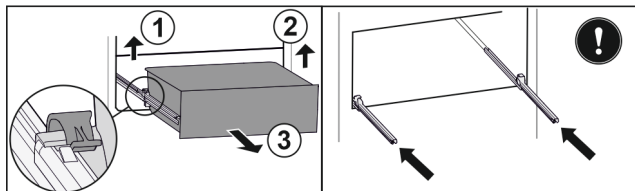

Fig. 131
- Lift left clamp and simultaneously pull drawer forwards on the left. Fig. 131 (1)
- Lift right clamp and simultaneously pull drawer forwards on the right. Fig. 131 (2)
- Remove drawer to the front. Fig. 131 (3)